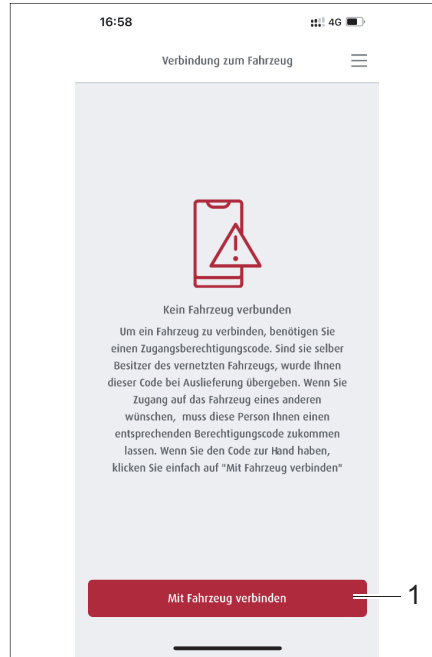
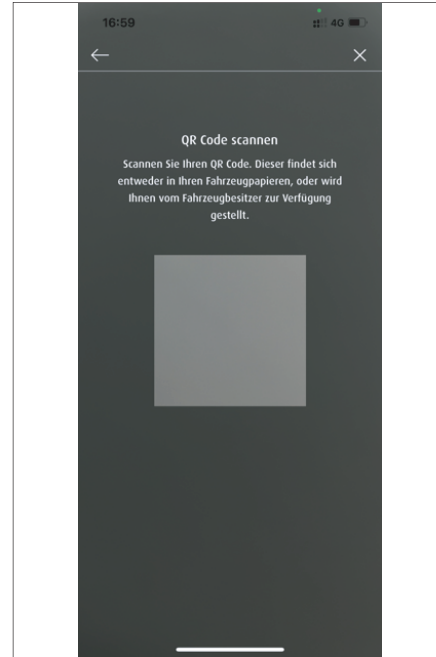

Fig. 275 Connecting to the vehicle
Fig. 276 Scan vehicle QR code
- Click on the *Login* (Fig. 274,1) button. The vehicle connection menu will appear (Fig. 275). Any vehicles that have previously been connected are listed here.
- Click on the *Connect with vehicle* (Fig. 275,1) button. The scan QR code menu option will appear (Fig. 276).